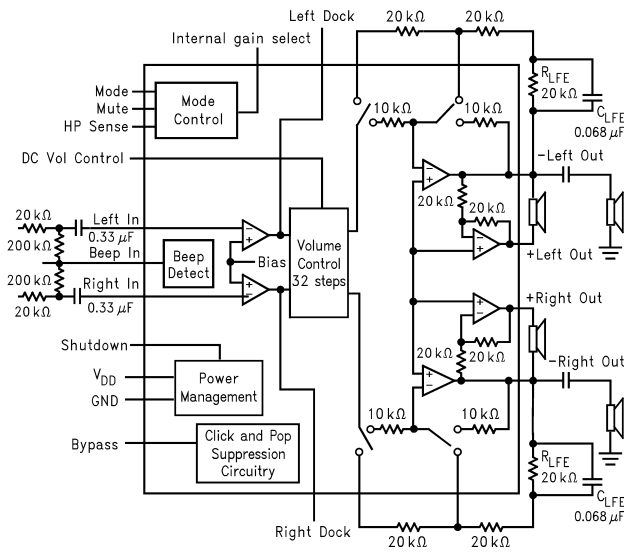

Figure 3. LM4835 Block Diagram
- (1) All voltages are measured with respect to the ground pins, unless otherwise specified. All specifications are tested using the typical application as shown in Figure 3.
- (2) *Absolute Maximum Ratings* indicate limits beyond which damage to the device may occur. *Operating Ratings* indicate conditions for which the device is functional, but do not guarantee specific performance limits. *Electrical Characteristics* state DC and AC electrical specifications under particular test conditions which guarantee specific performance limits. This assumes that the device is within the Operating Ratings. Specifications are not guaranteed for parameters where no limit is given, however, the typical value is a good indication of device performance.
- (3) Typicals are measured at $25^{\circ}C$ and represent the parametric norm.
- (4) Datasheet min/max specification limits are guaranteed by design, test, or statistical analysis.
- (3) Typicals are measured at $25^\circ C$ and represent the parametric norm.
- (5) When driving 3Ω loads and operating on a 5V supply, the LM4835MTE must be mounted to the circuit board and forced-air cooled.
- (6) When driving a 3Ω or 4Ω loads and operating on a 5V supply, the LM4835LQ must be mounted to the circuit board that has a minimum of $2.5in^2$ of exposed, uninterrupted copper area connected to the LLP package's exposed DAP.
- (7) When driving 4Ω loads and operating on a 5V supply, the LM4835MTE must be mounted to the circuit board.